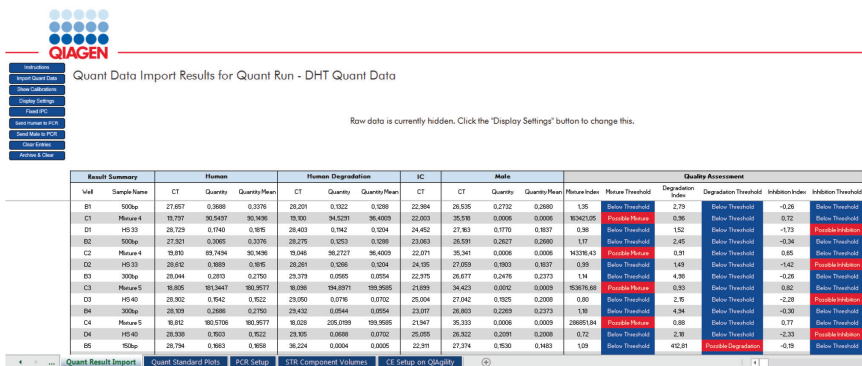

Figure 48. Quant Result Import worksheet: data analyzed.
12. Your quantification data are now imported and the data analyzed. The Mixture Index, Degradation Index and Inhibition Index are calculated and tagged as "Below Threshold", "Possible Mixture", "Possible Degradation" or "Possible Inhibition" (Figure 48).